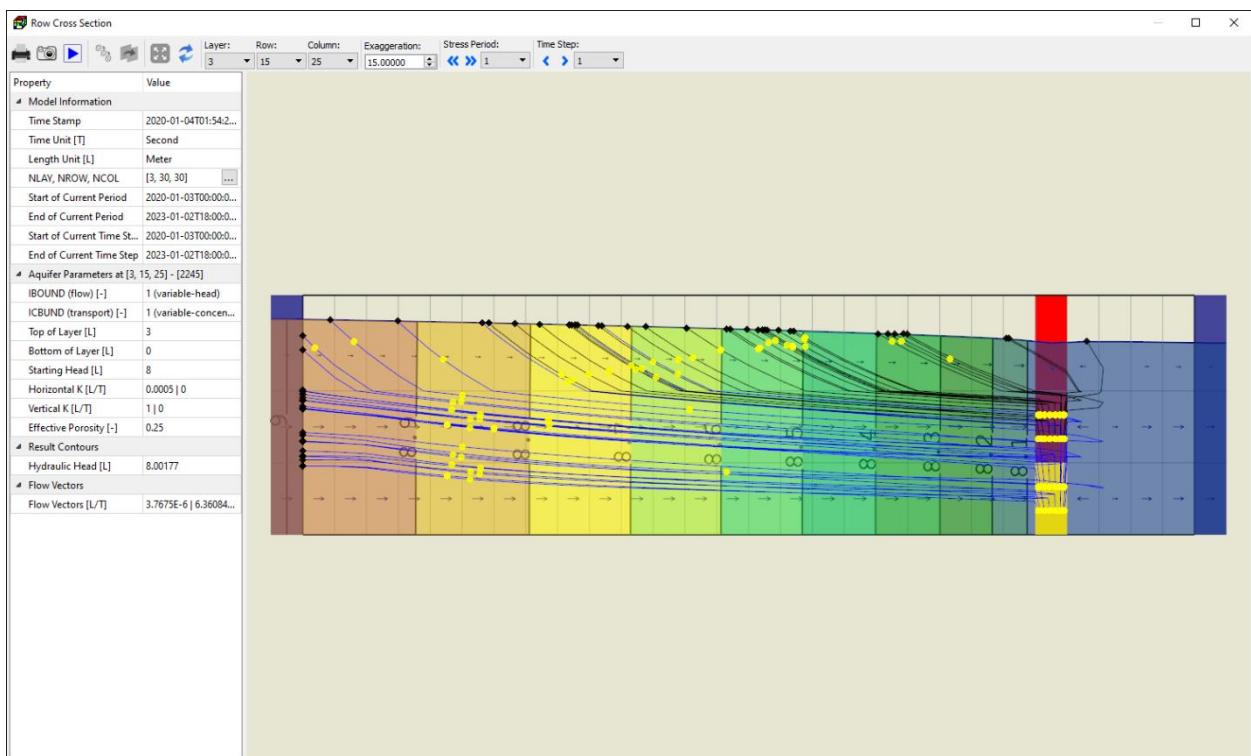

Figure 14. Projection of pathlines on Row Cross Section Window (backward tracking)
- Click on the button on the toolbar to display the Row Cross Section window. On the Row Cross Section Window, set Exaggeration to 15 and then click the button to zoom out. As the recharge term is applied to the cell top, some pathlines track back to the groundwater surface where recharge was applied (Figure 14). The results of backward particle tracking indicate that the capture zone of the pumping well adequately covers the contaminated area.